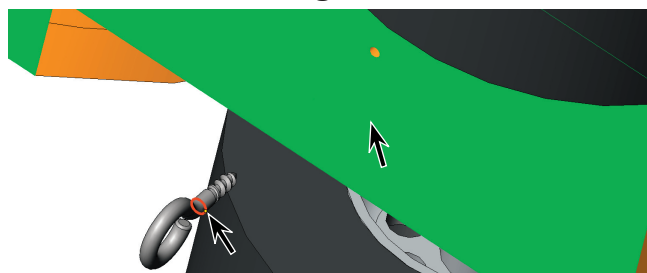

Fig. 51
Step 14. Click Add/Finish Mate  in Mate pop-up toolbar to add a **Concentric** mate, Fig. 51.
Step 15. If necessary, click **Mate**  on the Assembly toolbar. Click **bottom face of the body** and **round edge of the eye screw**, Fig. 51.